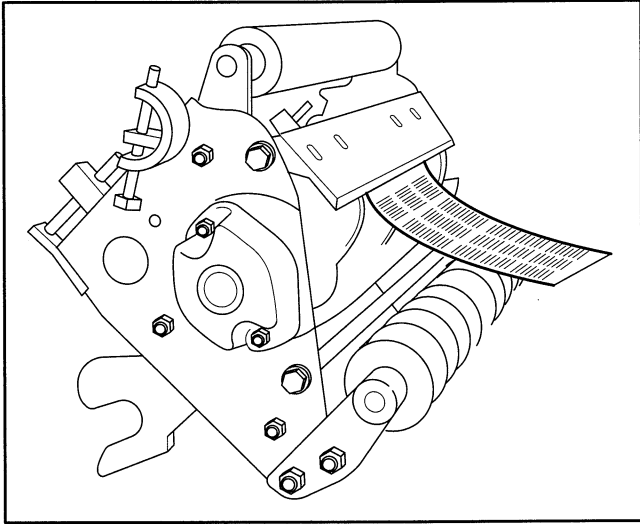

Figure 2
3. After the adjustment is accomplished, check to see if reel can pinch paper when inserted from the front and cut paper when inserted at a right angle (Fig. 2). It should be possible to cut paper with minimum contact between the bedknife and the reel blades. Should excessive reel drag be evident it **will** be necessary to either back lap or re-grind the cutting unit to achieve the sharp edges needed for precision cutting (see Toro reel sharpening manual).